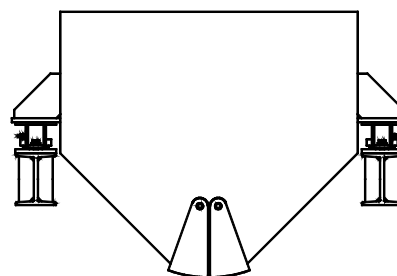

Figure 6-10: Hopper Scale
- **Hopper Scale:** Some hopper scales have vibrators to aid emptying. Gates can cause additional impact forces when opening and closing. As long as the forces are not present during weighing, a hopper scale does not require stabilizers (see Figure 6-10).